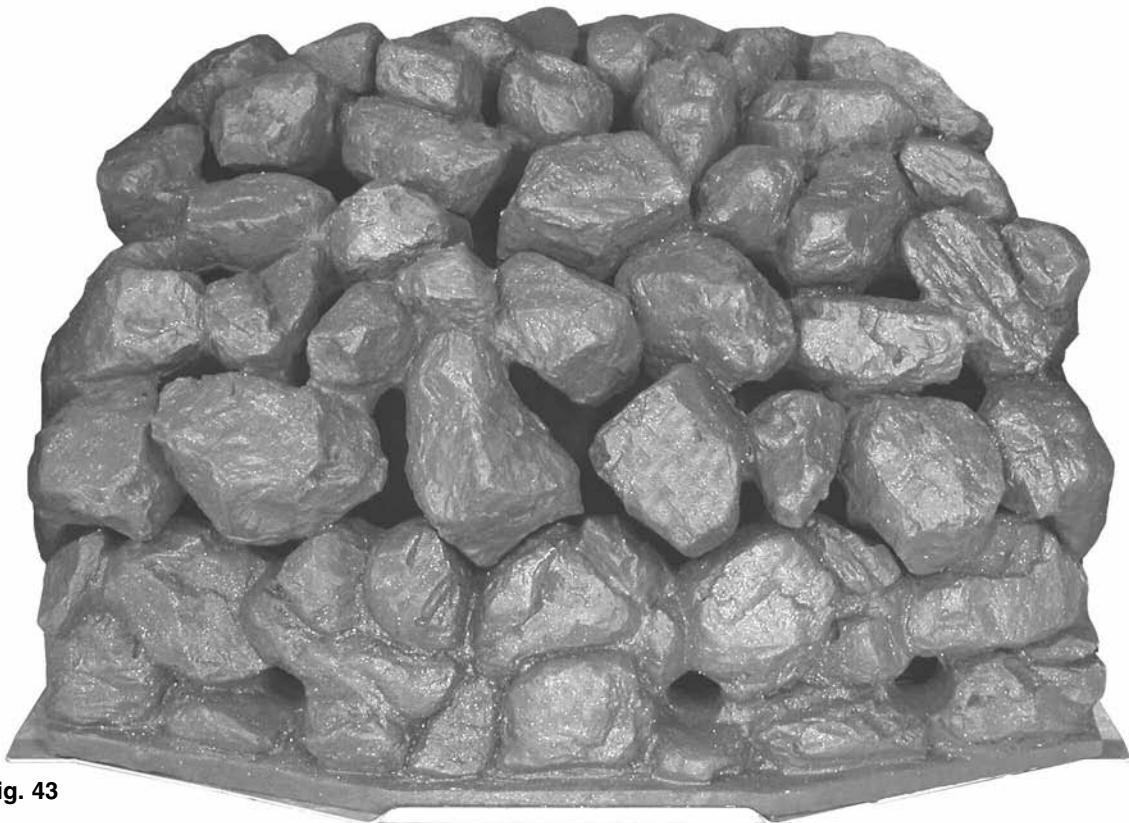

Fig. 43
5. Finally check that all the coal pieces are 'nested' together correctly (Fig. 43).